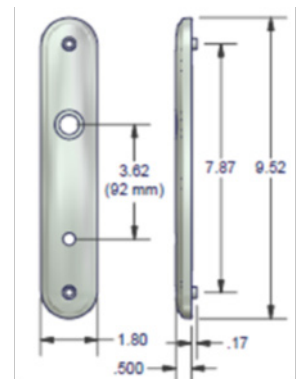

Figure 14
- **Note:** Escutcheon plate dimensions shown in Figure 14 can be used to source alternate hardware.